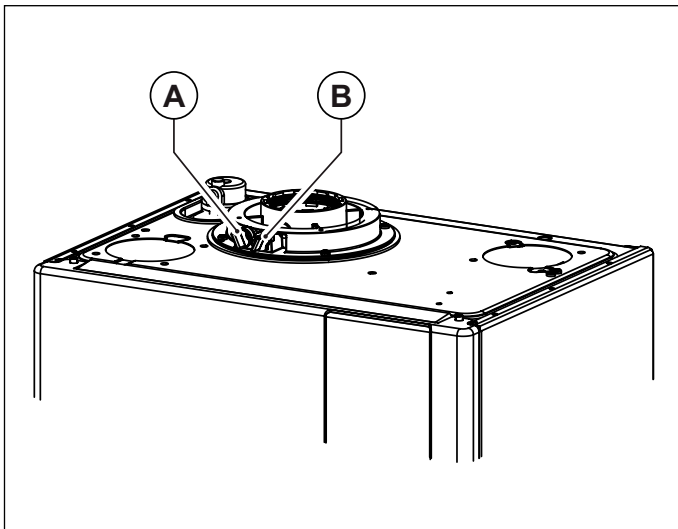
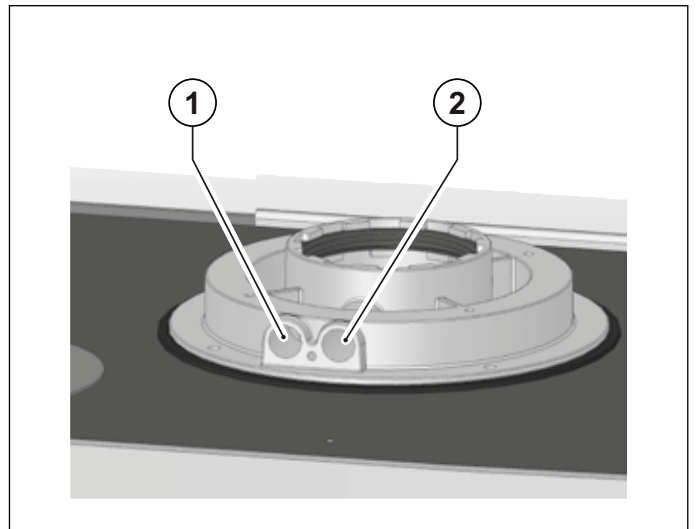

Fig. 15 Caps position
Fig. 16 Hole position
The boiler is equipped with a tower allowing for air intake/flue gas venting pipe connection (see Fig. 15 Caps position and Fig. 16 Hole position).
The tower is designed with two pre-arranged openings directly accessing air and flue gas ducts (see Fig. 15 Caps position).
Remove caps **A** and **B** from the pre-arranged openings on the tower, before taking the measurements (see Fig. 15 Caps position).
- assess combustion air from opening **1** (see Fig. 16 Hole position).
- assess flue gas temperature and CO₂ from opening **2** (see Fig. 16 Hole position).